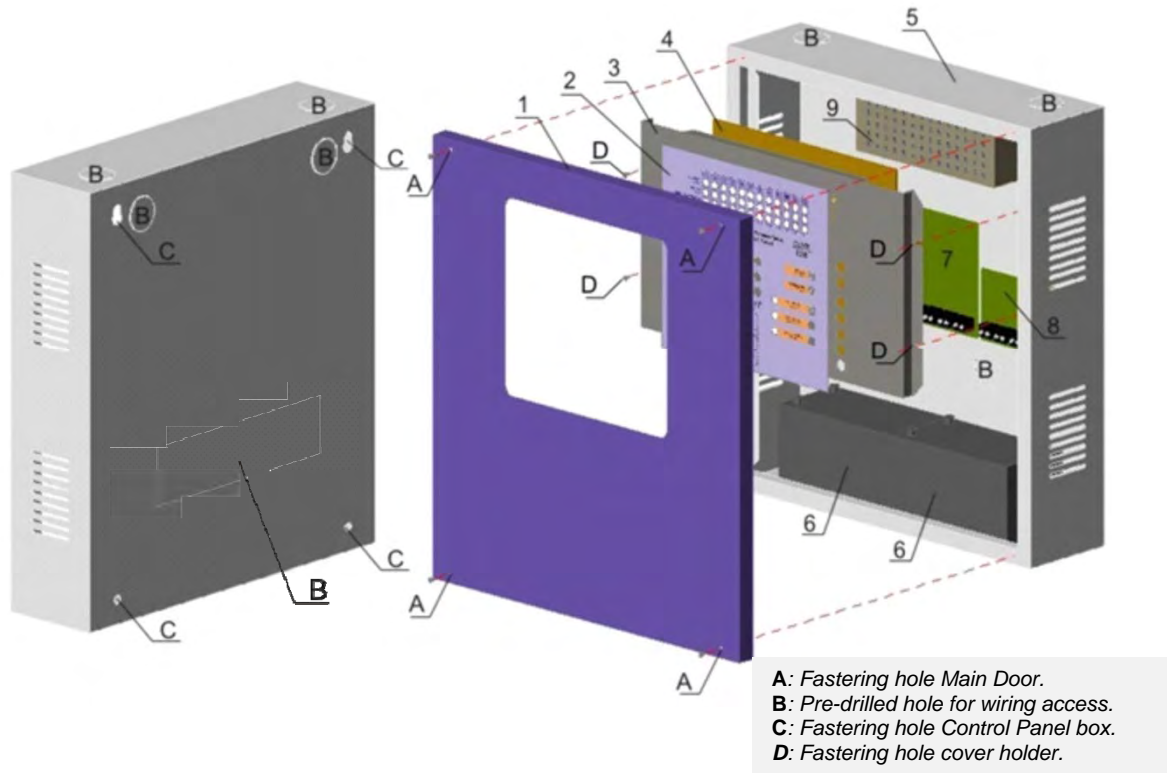

Figure 3: Diagram of box and main door
The control panel CLVR is based on a metal box, into which the different components are placed. The door is fitted to the box with 4 front bolts (letter A in figure 3) located near the corners.
As far as the box is concerned, it is provided with 6 pre-drilled holes of 28 mm and 1 rectangular of 137 x 36 mm to allow access for wiring to the control panel (Letter B in figure 3).
In order to fit the box to the wall, there are 4 holes of 8 mm diameter on the rear side near the corners (letter C in figure 3).
Therefore, the installation process for the control panel is as follows (see figure 3):
- Drill the necessary holes for mounting the control panel on the wall. To do this, remember holes (C) located in the corners of the cover (see figure 3).
- Remove the box door by taking out bolts (A) from the corners.
- Open the pre-drilled holes (B) needed for passing the cables through to the control panel.
- Fit the box on the wall using holes (C).